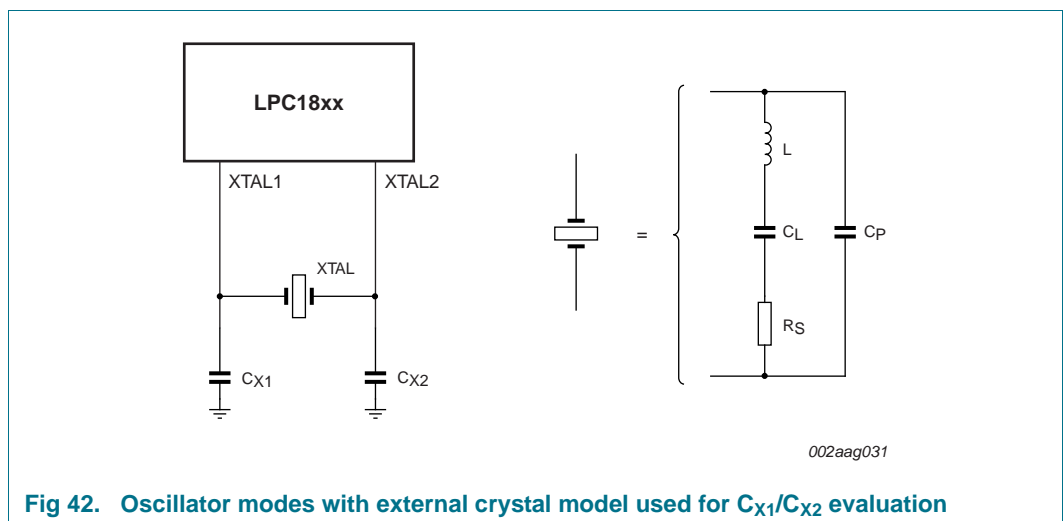

Fig 42. Oscillator modes with external crystal model used for C_{X1}/C_{X2} evaluation
- External components and models used in oscillation mode are shown in Figure 42, and in Table 38 and Table 39. Since the feedback resistance is integrated on chip, only a crystal and the capacitances C_{X1} and C_{X2} need to be connected externally in case of fundamental mode oscillation (L, CL and RS represent the fundamental frequency). Capacitance C_P in Figure 42 represents the parallel package capacitance and must not be larger than 7 pF. Parameters FC, CL, RS and C_P are supplied by the crystal manufacturer.